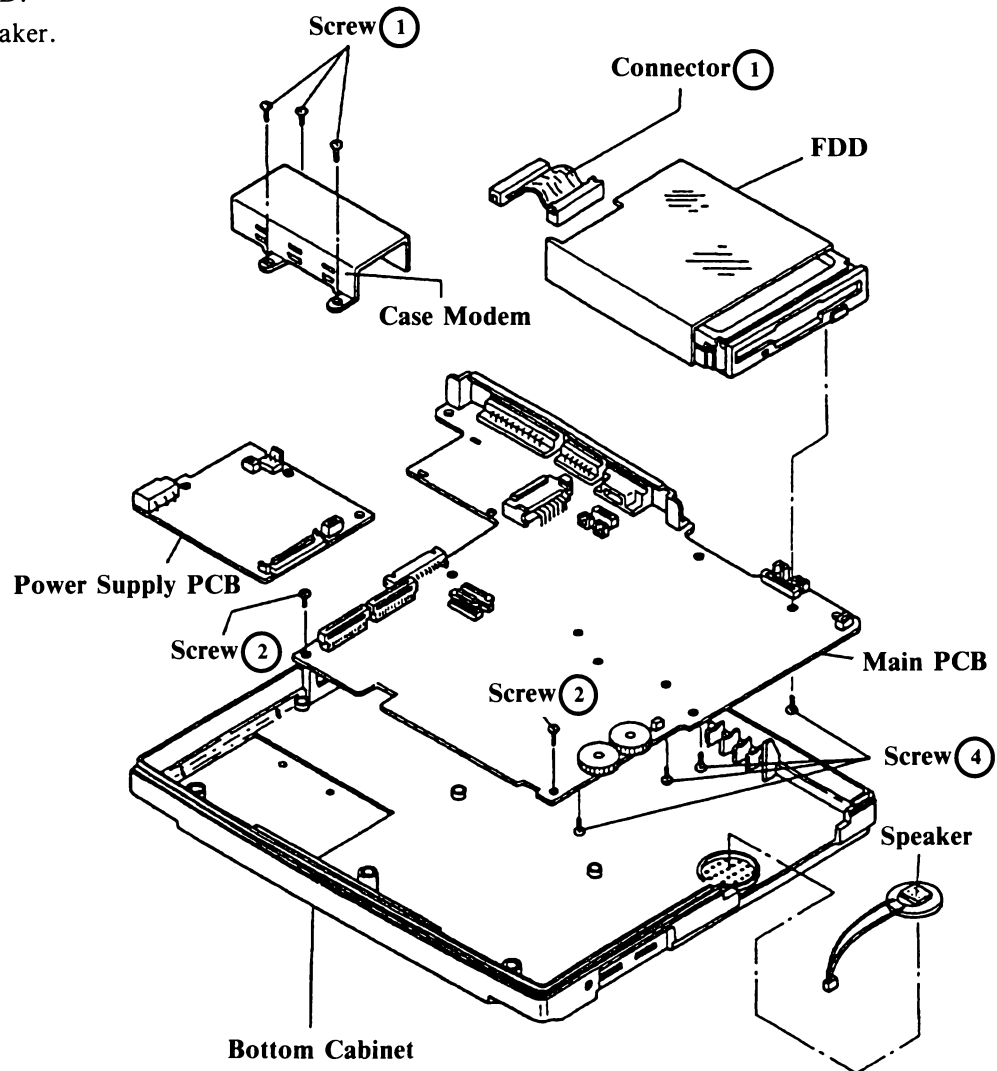

**Figure 3.5**
Remove the three screws (1) which hold Case Modem in place. (Figure 3.5)